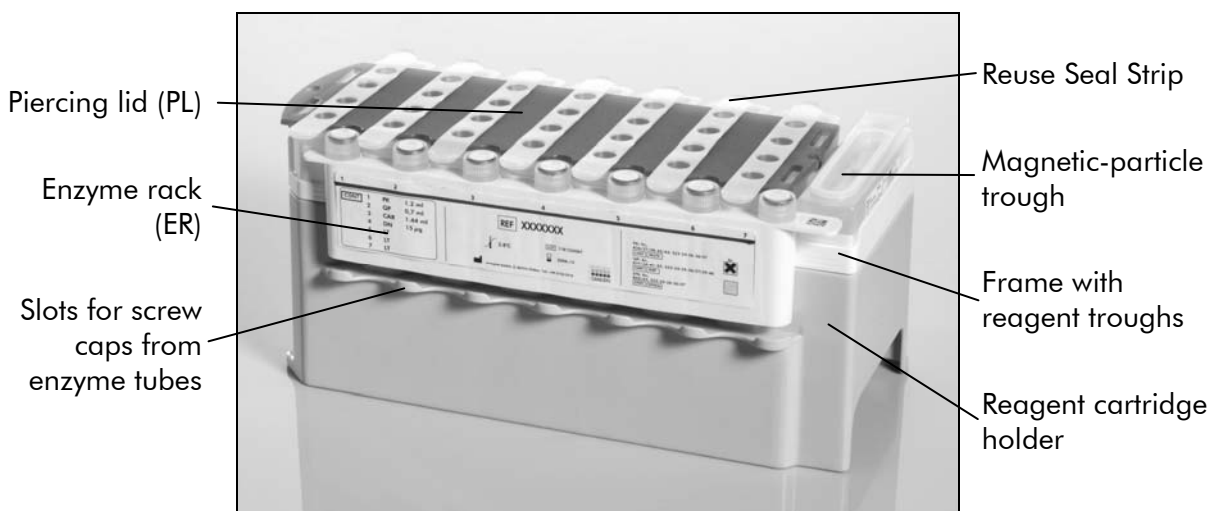

Figure 7. QIASymphony reagent cartridge (RC). The reagent cartridge (RC) contains all reagents required for the purification procedure.
Reagents for purification of nucleic acids are contained in an innovative reagent cartridge (RC) (see Figure 7). Each trough of the reagent cartridge (RC) contains a particular reagent, such as magnetic particles, lysis buffer, wash buffer, or elution buffer. Partially used reagent cartridges (RC) can be reclosed with Reuse Seal Strips for later reuse, which avoids generation of waste due to leftover reagents at the end of the purification procedure.
After the magnetic-particle trough cover is removed and the enzyme rack tubes are opened (screw caps can be stored in dedicated slots, see Figure 7), the reagent cartridge (RC) is subsequently loaded into the “Reagents and Consumables” drawer.